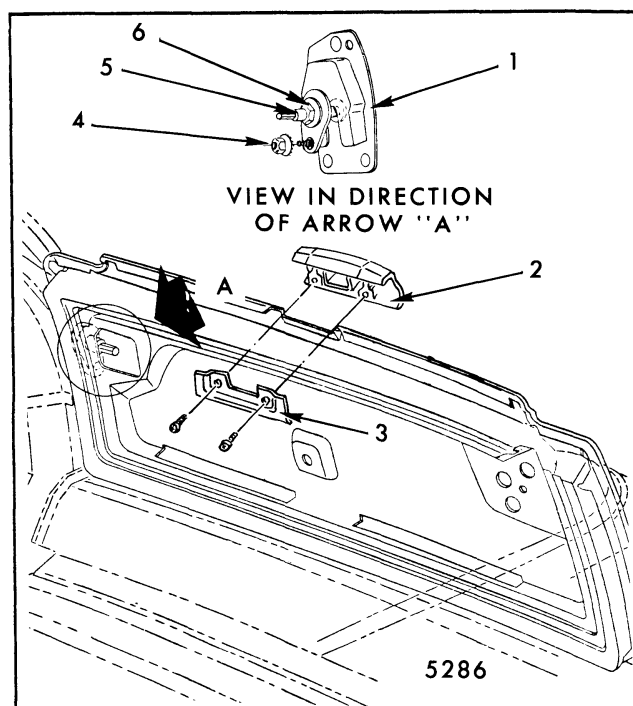

Fig. 7-107-Tail Gate Lock Striker and Grip Handle Assemblies
The tail gate striker assembly mounted on the right side of the gate provides fore-aft, up-down and cross-body adjustments. The assembly is designed to pivot from the lower attaching point so that fore-aft adjustment can be made without disturbing the height setting. Cross-body adjustment is made by loosening the striker pin jamb nut and turning the striker pin in the desired direction (Fig. 7-107).
4. Through access hole in tail gate inner panel, remove striker assembly nut and striker pin jamb nut and washer (Fig. 7-107).
1. Engage hex end of striker with a suitable wrench and loosen striker pin jamb nut (Fig. 7-107).
1. Remove screws securing tail gate outer panel grip handle and cover. Remove handle (Fig. 7-107).
1. With tail gate fully closed remove inner cover panel for access to striker attaching provisions (Fig. 7-107).
- A. Gain access to striker assembly and loosen striker pin jamb nut and striker assembly nut (Fig. 7-107).